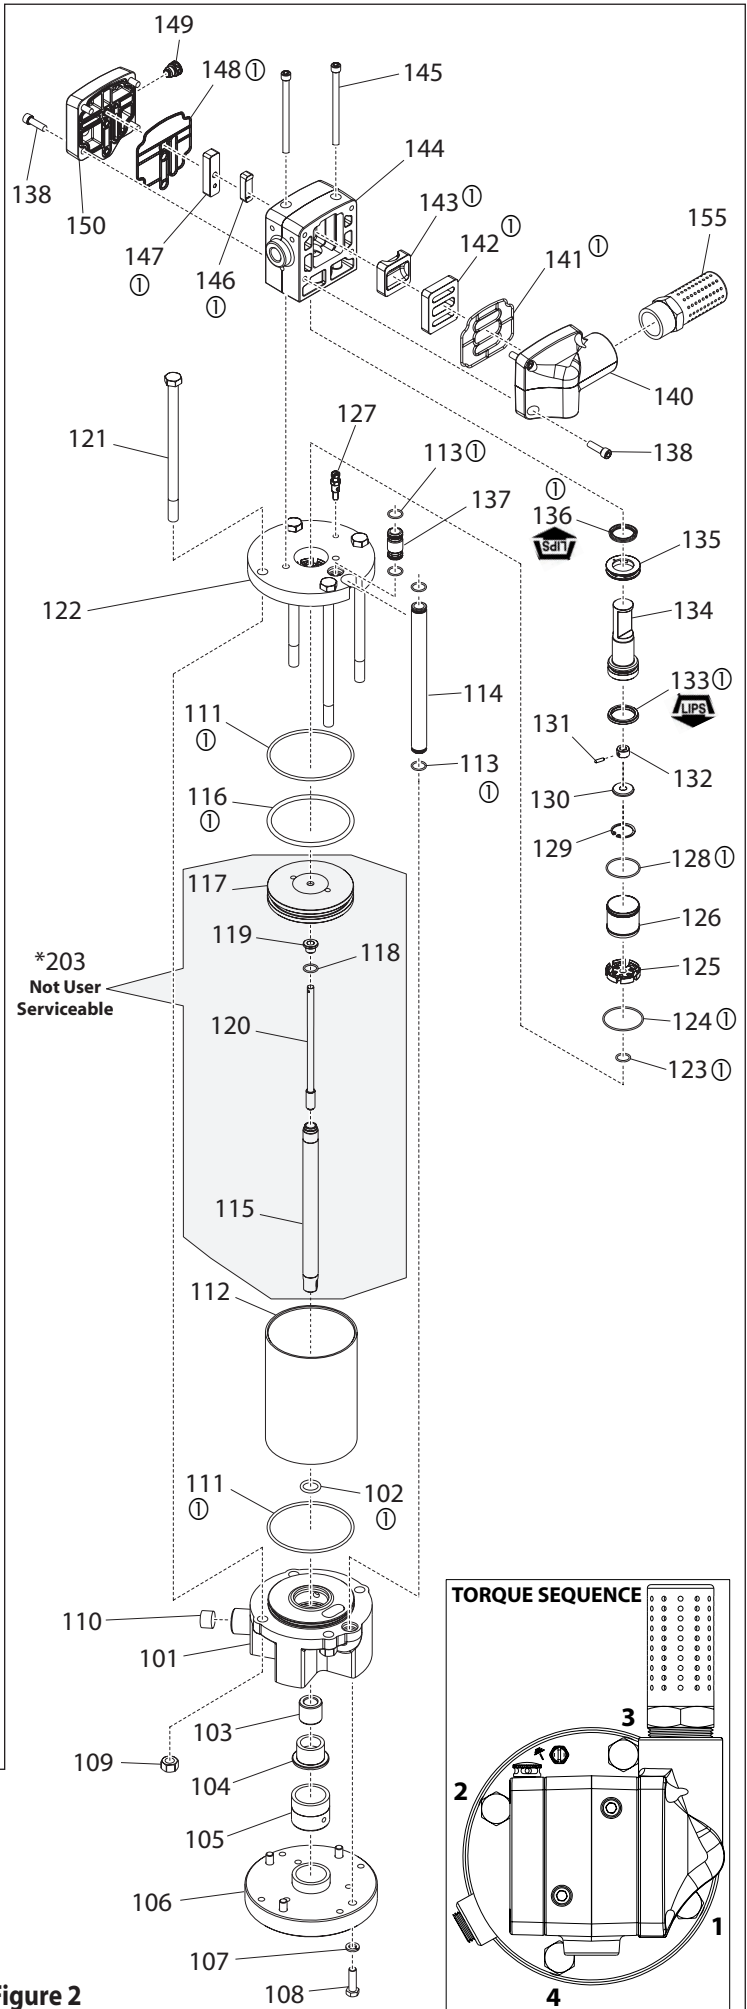

Figure 2
2. For model AF0460-XX, install (151) washer, (152) U-cup, (153) washer, and (154) snap ring into the (101) base assembly. For all other models, install the (102) O-ring into the (101) base assembly.
3. Install the (111) O-ring in the groove on the (101) base assembly.
4. Install the (116) O-ring in the groove on the (117) piston.
5. Push (115) piston rod thru the (101) base assembly, being careful not to damage the lips of the (152) U-cup or the (102) O-ring.
6. Lubricate the inside diameter of the (112) air cylinder and slide it down over the (203) piston assembly and onto the (101) air motor base assembly. (See Figure 2 on page 2).
7. Align notch in (122) head plate with the port in (101) base assembly and press the (122) head plate down until it is seated against the (112) air cylinder. The (120) trip rod assembly must lead thru the center of the (122) head plate.
8. Assemble the four (121) bolts thru the (122) head plate and the (101) base assembly.
9. Assemble the four (109) nuts to (121) hex head bolts and tighten per specified torque sequence and value.
10. Pull the (120) trip rod assembly as far out of the air motor assembly as possible, slide the (123) O-ring over the (120) trip rod assembly and down into the gland found in the (122) head plate.
11. Slide the (125) cap over the (120) trip rod assembly and down into the bore found in the (122) head plate.
12. Slide the (129) snap ring first and the (130) washer secondly, onto the (120) trip rod assembly.
13. Slide the (132) driver onto the (120) trip rod assembly. Align the hole of the (132) driver with the hole in the (120) trip rod assembly and insert the (131) pin.
14. Assemble the (133) U-cup to the (134) spool. Take note of the (133) U-cup lips should point down towards the (122) head plate.
15. Slide the (134) spool onto the (120) trip rod assembly over the (132) driver and insert the (130) washer behind it. Utilizing snap ring pliers, assemble the (129) snap ring to the internal groove found in the (134) spool. Be certain that the (129) snap ring is fully engaged into the groove. Slide the (134) spool downward into the bore of the (122) head plate nesting on top of the (125) cap.
16. Lubricate the inside diameter of the (126) sleeve and slide it onto the (134) spool and locating it into the (125) cap. Take note that large taper on (126) Sleeve is to locate into (125) Cap.